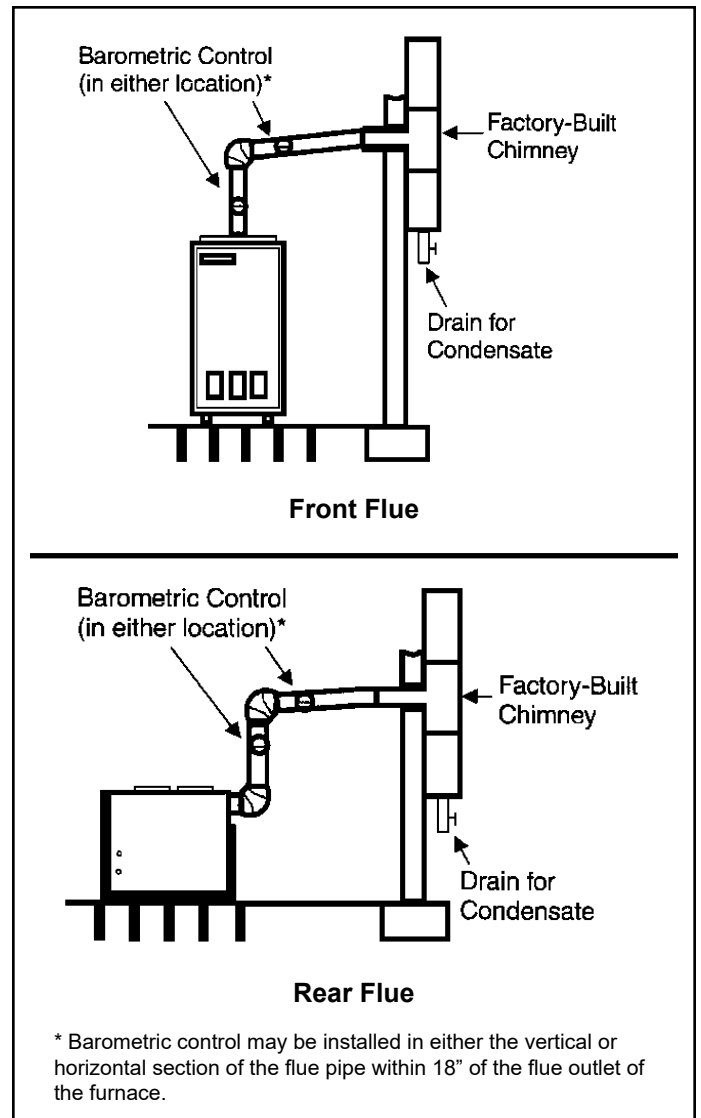
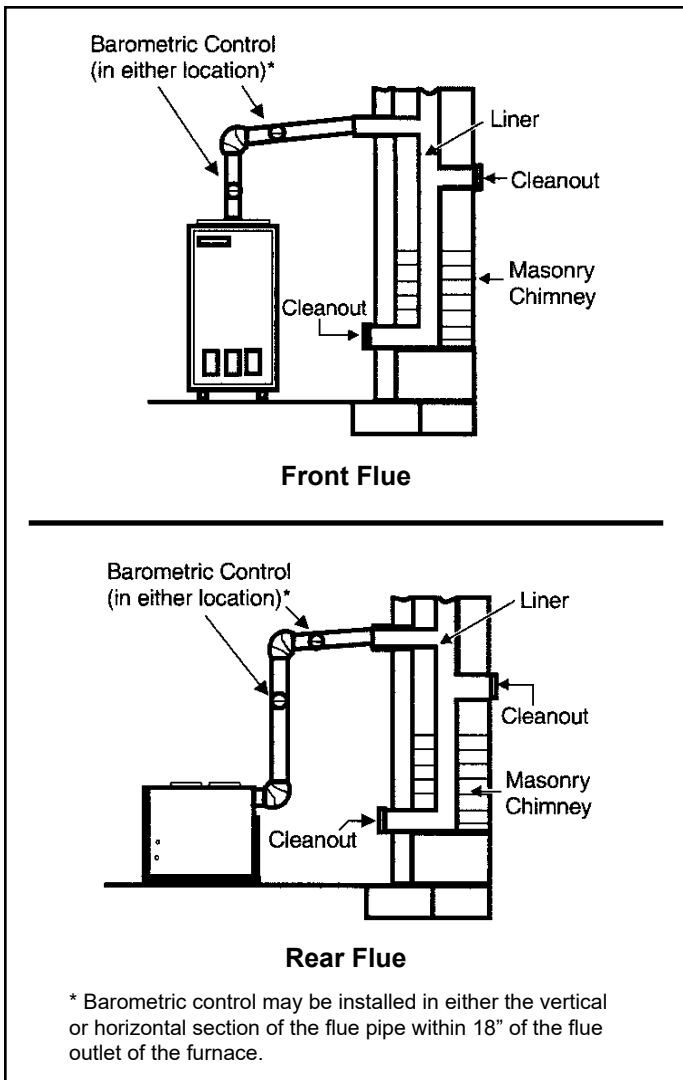

Figure 6. Factory-Built Chimney
Figure 7. Masonry Chimney
8. The flue pipe should slope upward toward the chimney on a horizontal run of at least 1/4" per foot and should be supported by something other than the furnace (see Figure 6 and Figure 7).
14. All vent pipe run through unconditioned areas or outside shall be constructed of factory-built chimney sections (see Figure 6).
15. Where condensation of flue gases is apparent, the vent shall be constructed to prevent the condensation from entering the flue transition box opening. Provisions shall be made to drain off the condensate (see Figure 6).